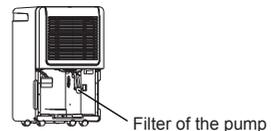

Fig. 13
- Remove the bucket from the unit, take down the pump and clean the filter. (See Fig. 13).